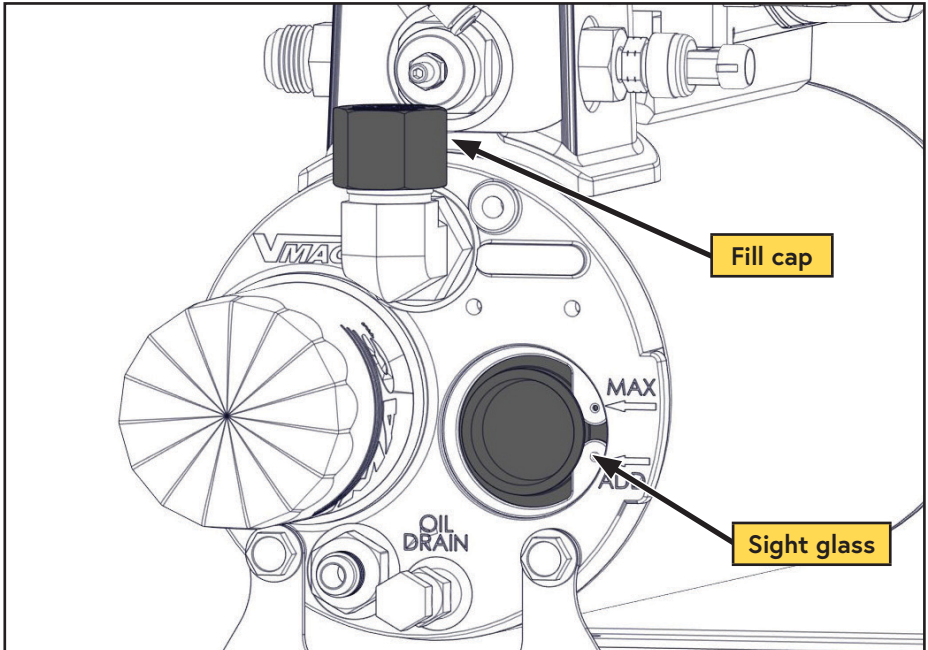

Figure 44 — Filling the WHASP Tank
- Remove the fill cap on the WHASP Tank (above the sight glass) (Figure 44).
- Using a funnel, pour oil into the tank until the oil level in the sight glass reaches the "MAX" line. The system capacity is 4 L (Figure 44).